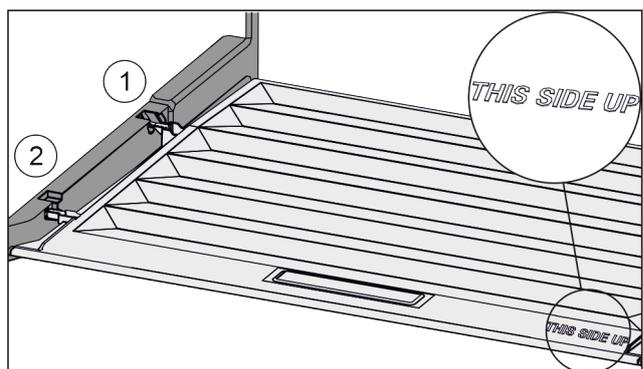

Fig. 49
- ▶ Insert the lip of the cover over the opening of the rear bracket Fig. 49 (1) and click into place Fig. 49 (2).